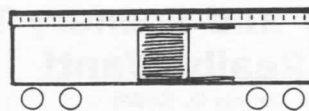

Figure 2. Express Car (Refrigerated Express Similar)
2) Box Car style express cars were just that: box cars. They had high-speed trucks, passenger style brakes, and steam lines for the heating system. These lines allowed steam to pass from the locomotive to the cars following the express cars. Often these cars were longer and had wider doors than regular box cars. Many times—especially in the streamliner era—they had special paint to match the train, or advertise a service. (See Fig. 2)